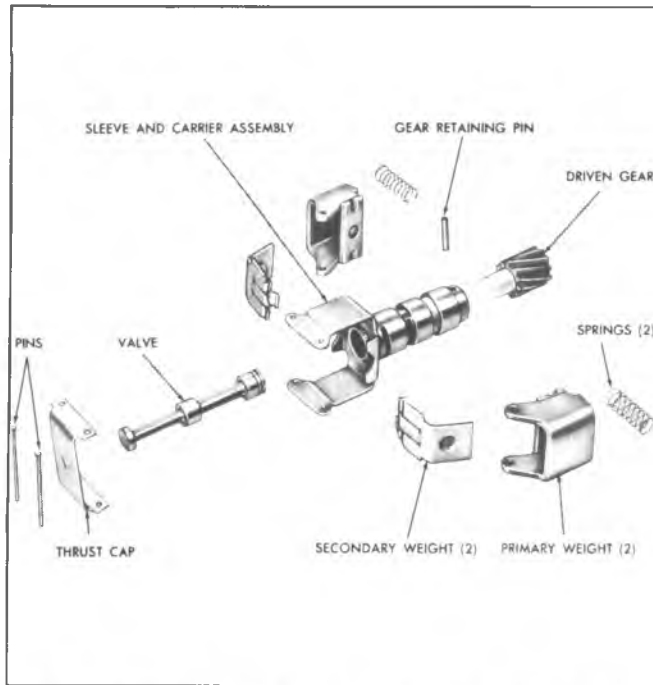

Fig. 7A-97B--Governor Assembly - Exploded View Typical
1. Cut off one end of each governor weight pin and remove pins, governor thrust cap, governor weights, and springs. Governor weights are interchangeable from side to side and need not be identified (fig. 7A-97B).